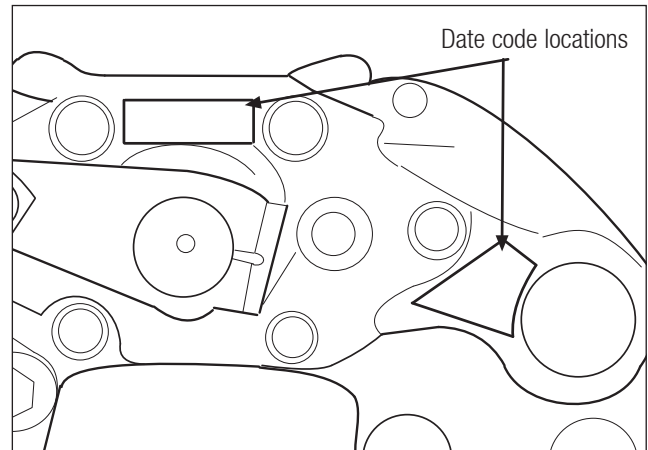

Fig. 10.1
* Date code identification (Fig 10.1). Before brake date code MJ24 (first letter not important) = 1999 week 24.